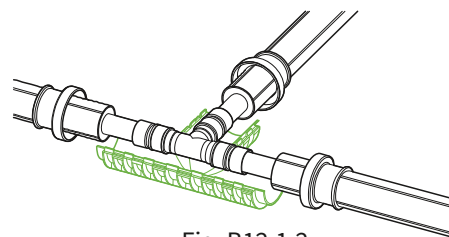

Fig. B12.1.2
1. Place the bottom half-shell under the installed FibreFlex Press T-Branch (Fig. B12.1.2).